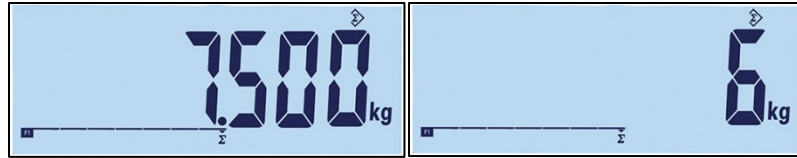

Figure 2-25: Collecting value symbol
3. Press and hold the function key to display the total value (Figure 2-25, left). Note that when the accumulation or count is displayed, the Accumulation icon  will blink. Press the function key briefly, and the “Count”, or number of values appears (Figure 2-25, right). Each time the “accumulation” key is pressed, the display will switch between count and sum.